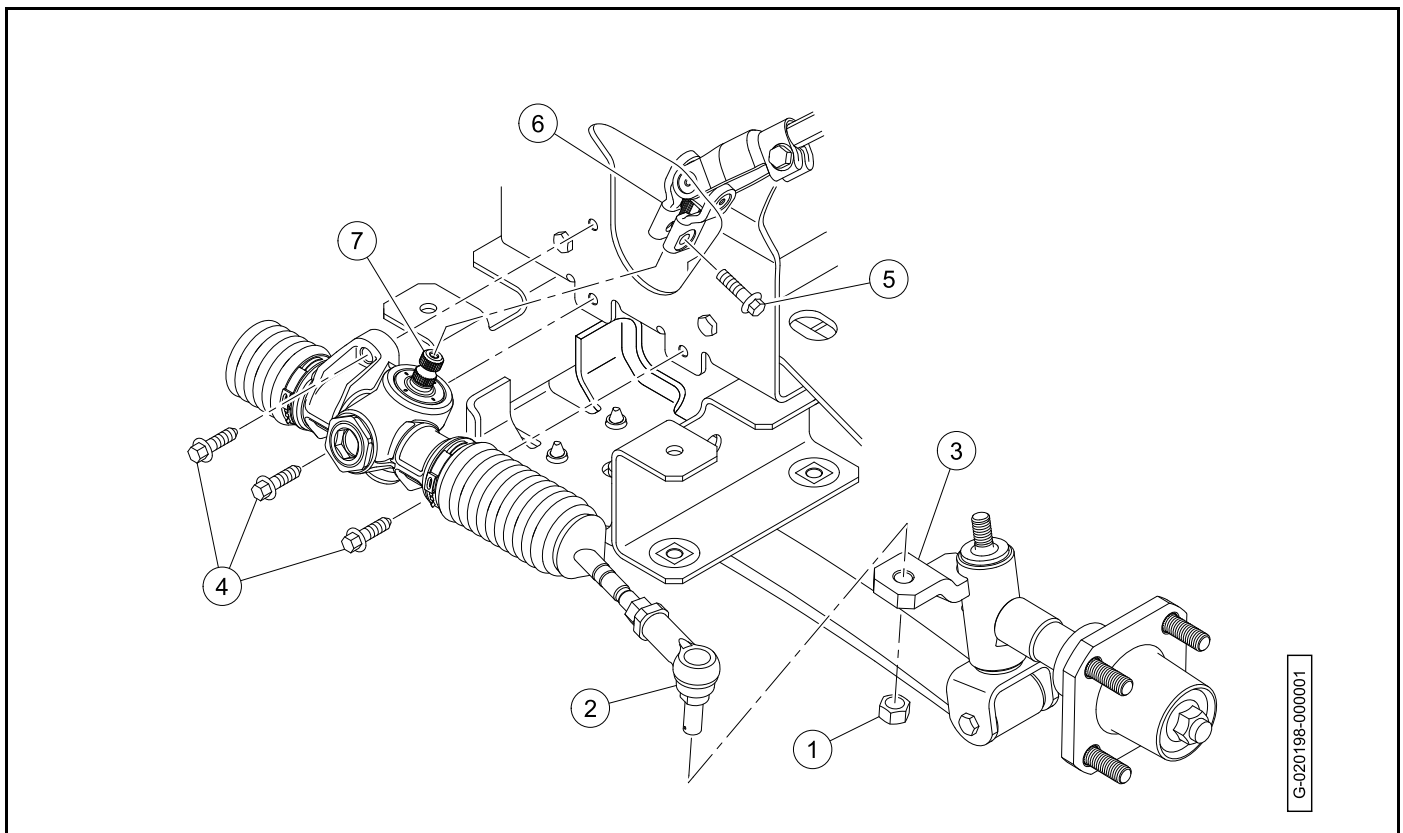

Figure 7-5
4. Remove the tie rod end retaining nuts (1) (**Figure 7-5, Page 7-5**).
5. Remove the tie rod ends (2) from the spindle tabs (3).
6. Remove the bolts (4).
7. Remove the bolt (5) from the universal joint (6).
8. Remove the universal joint from the pinion shaft (7).